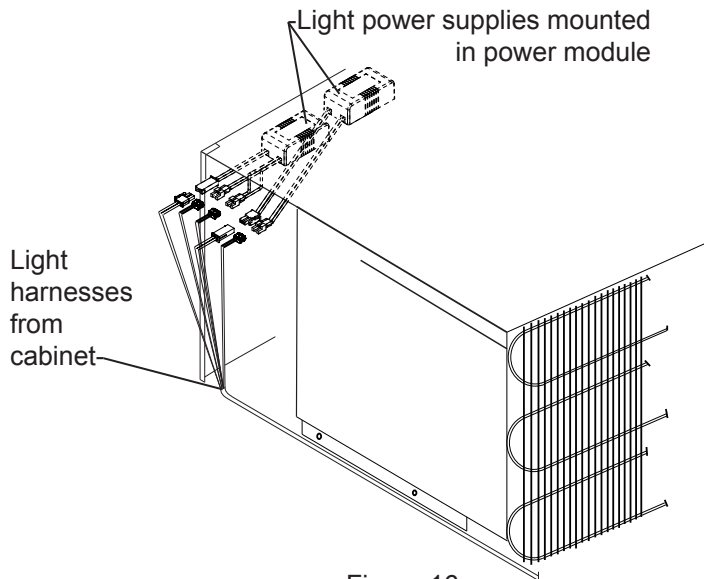

Figure 16
**On 18" wide freezer only (M18AF):** Plug in the (5) electrical connectors for the lights coming from the cabinet into the (2) power supplies which are attached to the power module, see Figure 16.